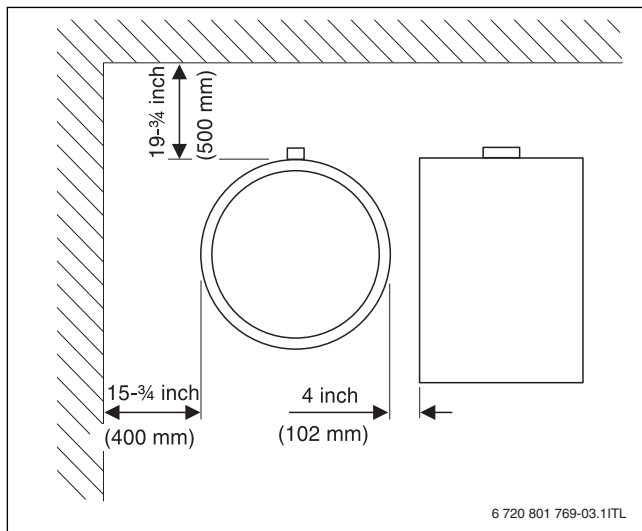

Fig. 6 Recommended minimum wall clearances
- ▶ Observe minimum room height (→ Tab. 6, page 7) and minimum wall clearance in installation room (→ Fig. 6).